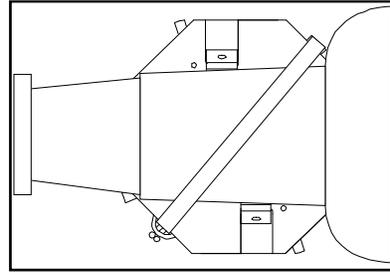

Fig. 3: Strap transmission
7. Secure transmission to the jack by placing the strap over the transmission, hook it in the hook ring, and then pull the strap tight (Fig. 3).